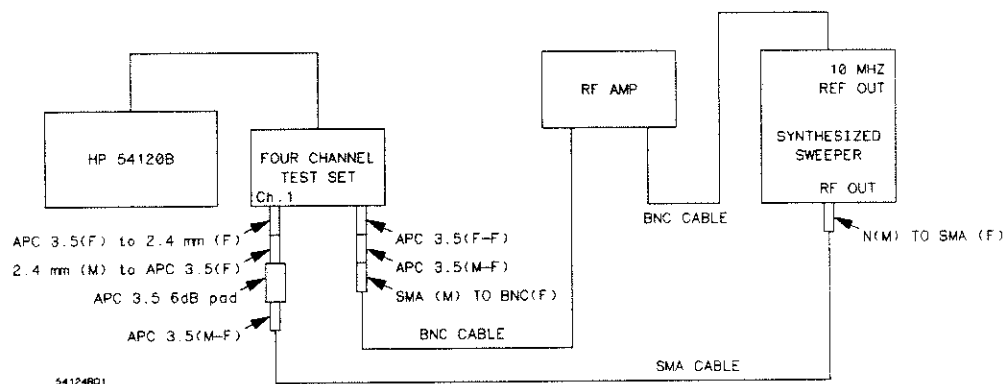

Figure 3-2. Bandwidth Test Equipment Setup B
8. Connect the equipment as shown in figure 3-2. Remove the APC 3.5 (f-f) adapters from the channel 1 and 2 input connectors. Attach the 11901B APC 3.5 (f) to 2.4 mm (f) to channel 1 with the 2.4 mm (f) end facing out. Leave the 2.4 mm (f-f) connector savers (shipped with the instrument) on channels 3 and 4.